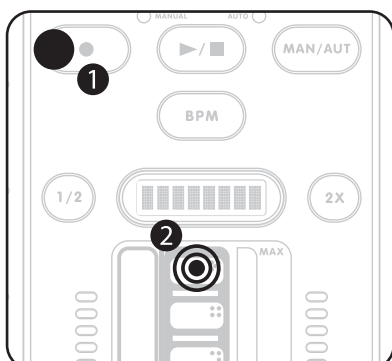

Figure 4.32
In either Auto or Manual Sampling, hold down the RECORD button Figure 4.32 (1) and tap a button in the FXGlide™ Button Strip to erase the corresponding sample (2).